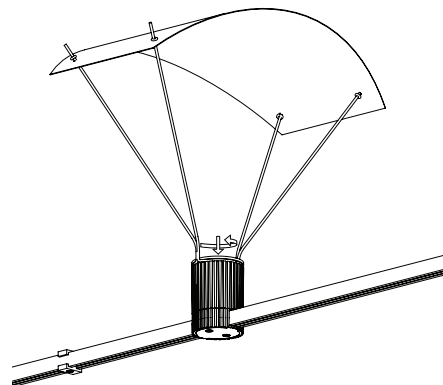

Fig. 6
5. While holding the reflector ring in place, screw the **Trim Ring** into the Cylinder Light Engine. (Fig. 6)